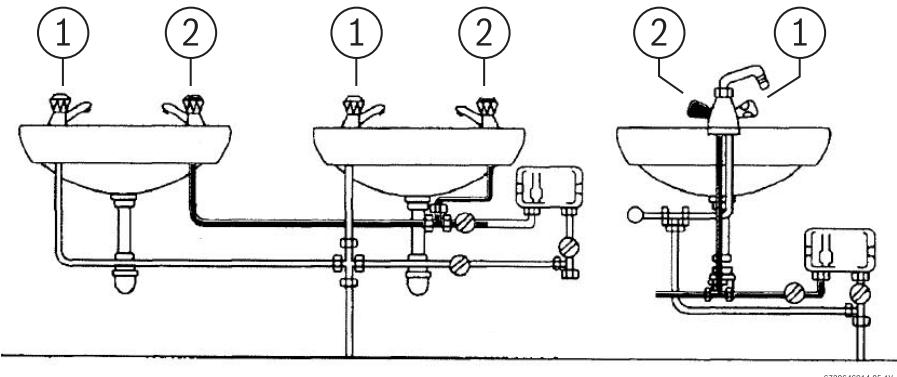

Fig. 4 Examples of installations (Show front view)
- ▶ Position the unit as shown (Fig. 4). Remember to keep the length of hot water pipe to a minimum in order to save energy.
- ▶ Unit must be mounted as shown in Fig. 4 with plumbing connection on the bottom. Under no circumstances should the unit be mounted differently.